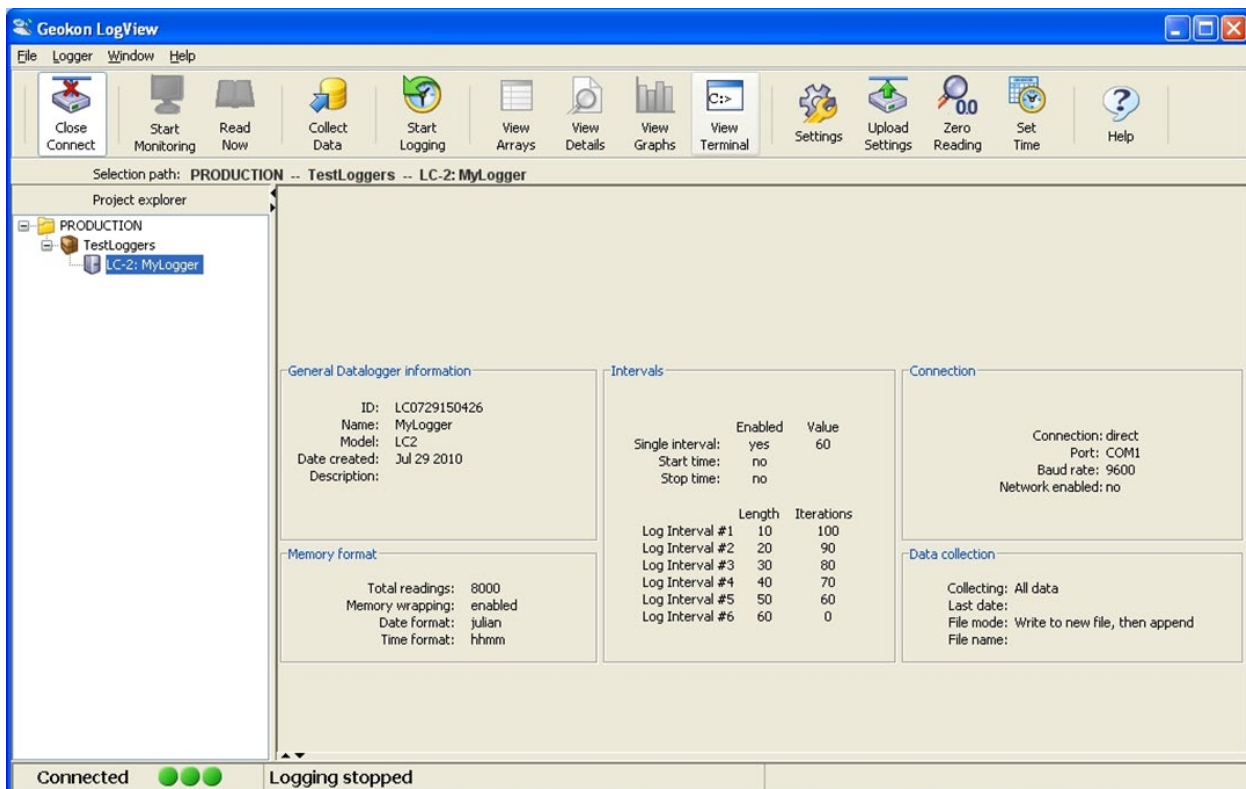

Figure 18 - Datalogger Connected
- 3) Click on the “**Upload Settings**” button on the LogView Toolbar to synchronize the datalogger with the LogView configuration (see Figure 18).